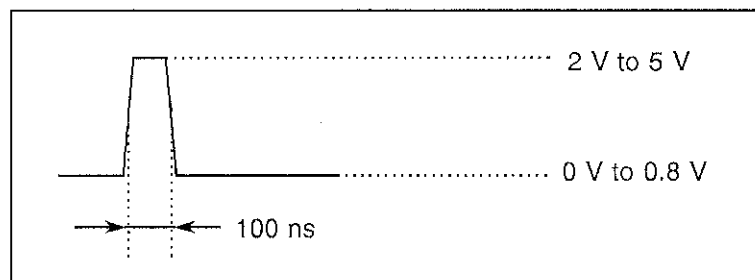

Figure 9-7 Waveform of the STRETCHED ERROR Output
- (5) If the waveform on the oscilloscope is a square wave which is similar to the one shown in Figure 9-7, the STRETCHED ERROR output signal is evaluated as normal.